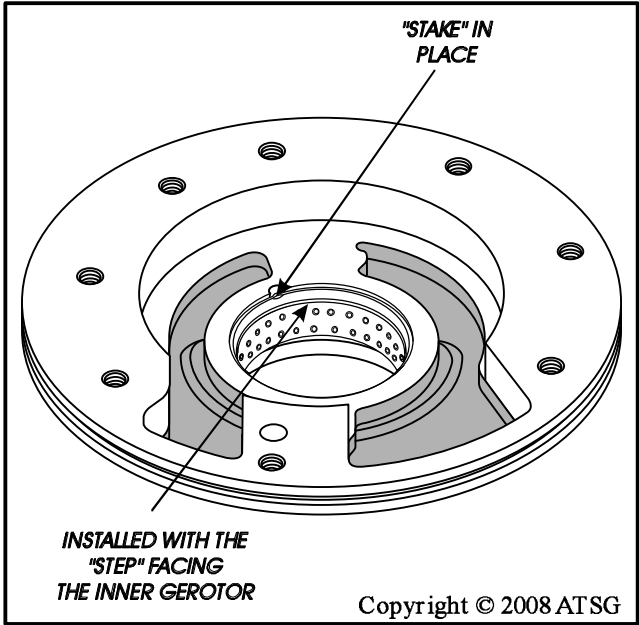

Figure 149
10. Stake the new pump body bushing in place, as shown in Figure 149, using a small punch.